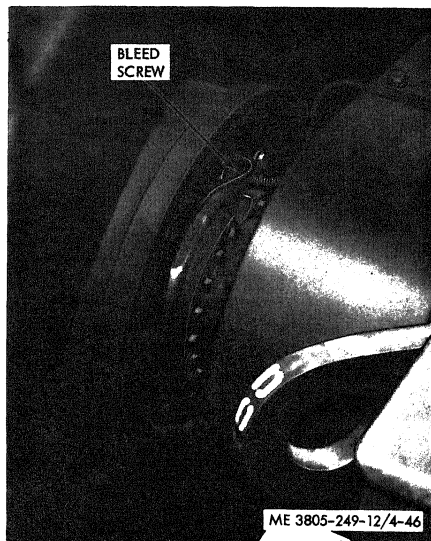

Figure 4-46. Bleeding brakes.
(1) Remove the master cylinder filler plug and connect the bleeder tank.
(2) Attach one end of a hose to the brake bleed screw (fig. 4-46), and place the other end in a clean jar.